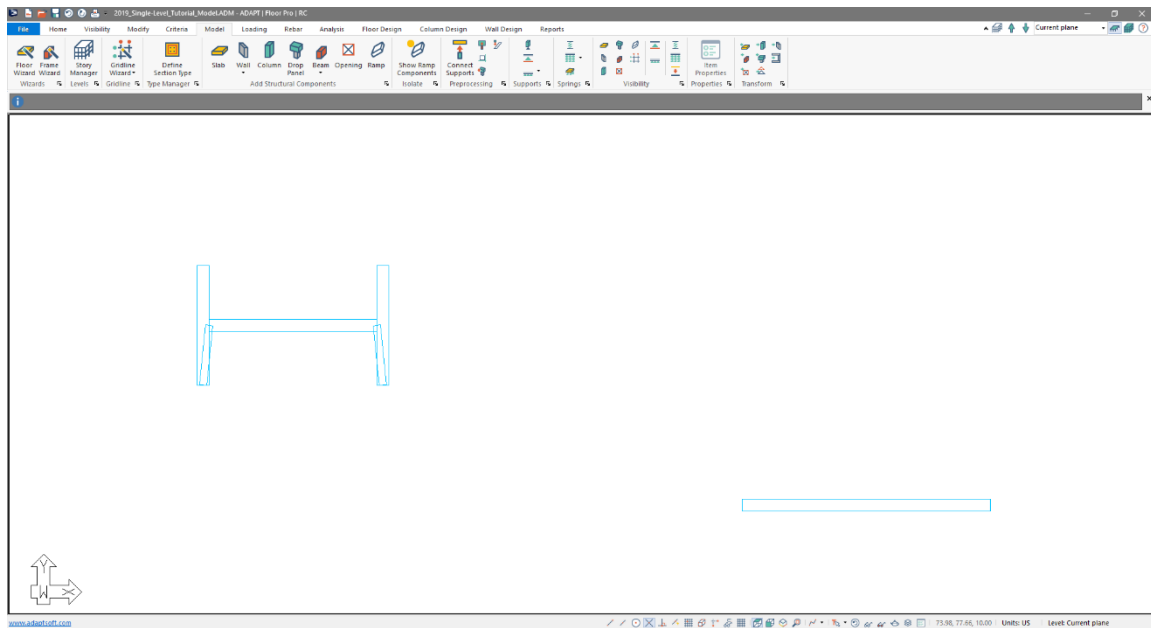

Figure 2-31
- Go to *Model* → *Transform* and click on the *Transform Compound Wall*  icon. This will automatically create multiple wall objects based on the selected closed polyline as shown in **FIGURE 2-31**.